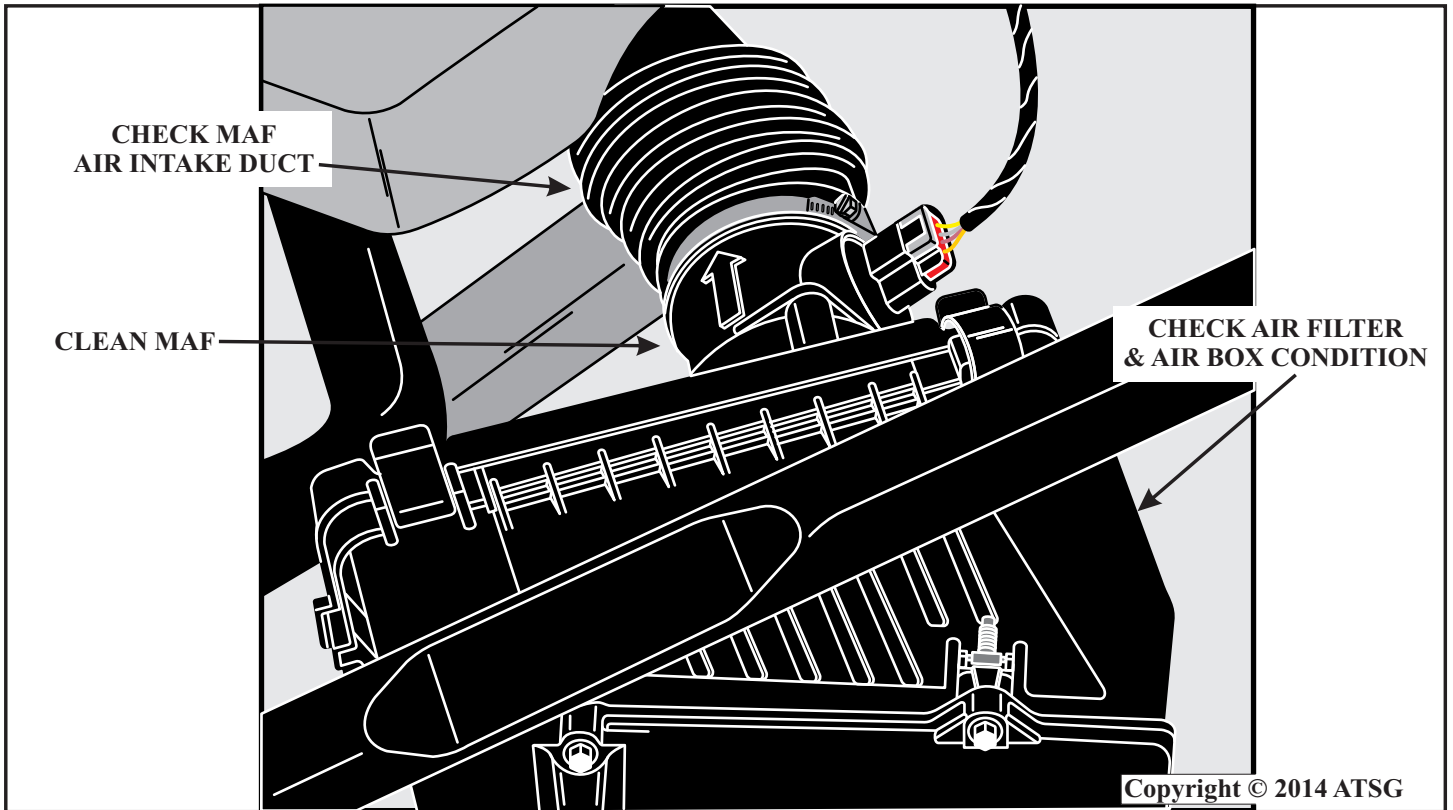

Figure 7
- 10 - Clean or replace the Mass Airflow Sensor (whichever is necessary) and inspect the intake air duct to insure it is not damaged, Figure 7.
- 11 - Inspect the air box for a restricted air filter and for any debris that may have collected, Figure 7.